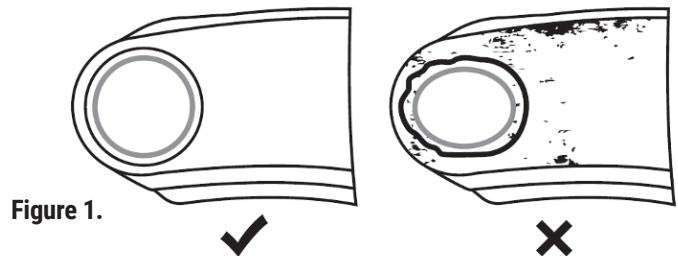

Figure 1.
- Before installation of ball joint, ensure all mating surfaces are clear of rust, debris and burrs. Inspect control arm mounting flange for cracks, deformation and or out of round condition. Do not reuse control arm body if these are found. **See Figure 1.**